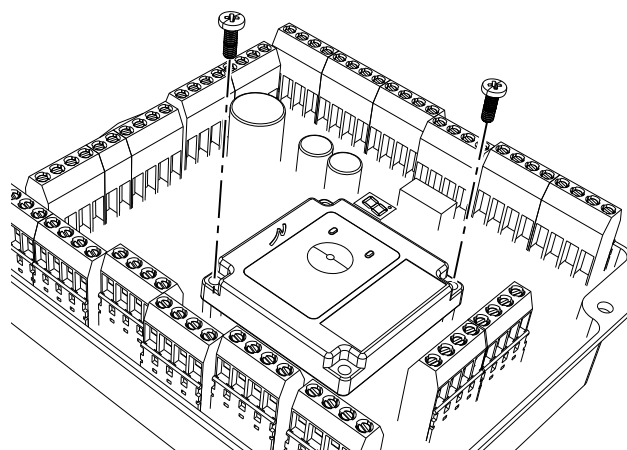

Fig.8. The receiver module is installed with two screws
3. Screw the receiver module to the control card using two M3x10 screws. Fig.8.